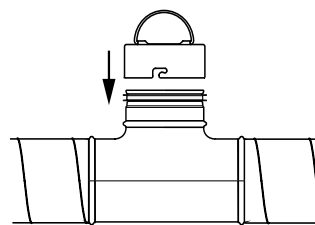

Fig. 1
1. Push the cover onto the fitting and make sure the cover is secure and level all around (Fig. 1).